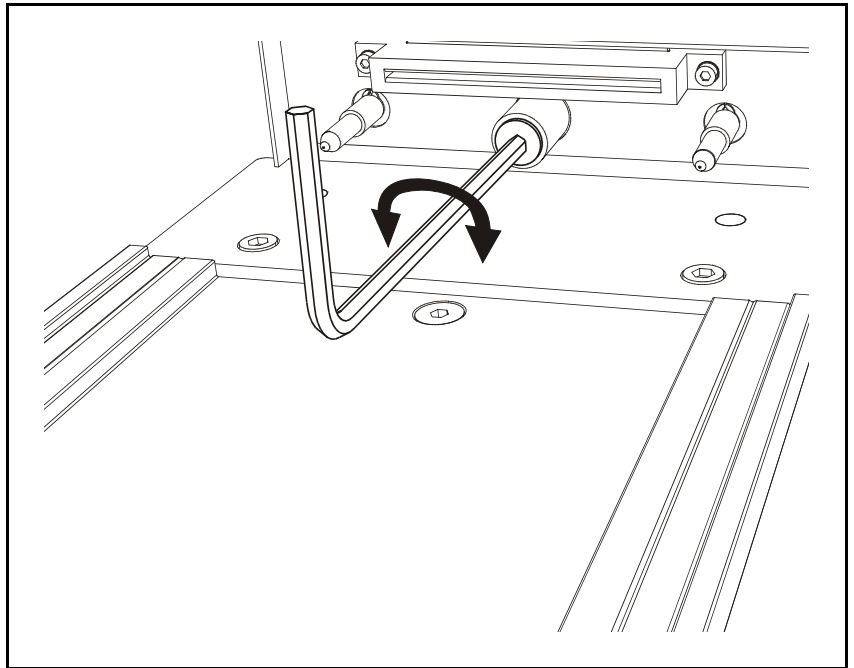

Figure 13-1. Unscrew the Stop Screw.
5. If the centermark is off in the Y direction, adjust the slot position. Start by unscrewing the stop screw, see Figure 13-1.